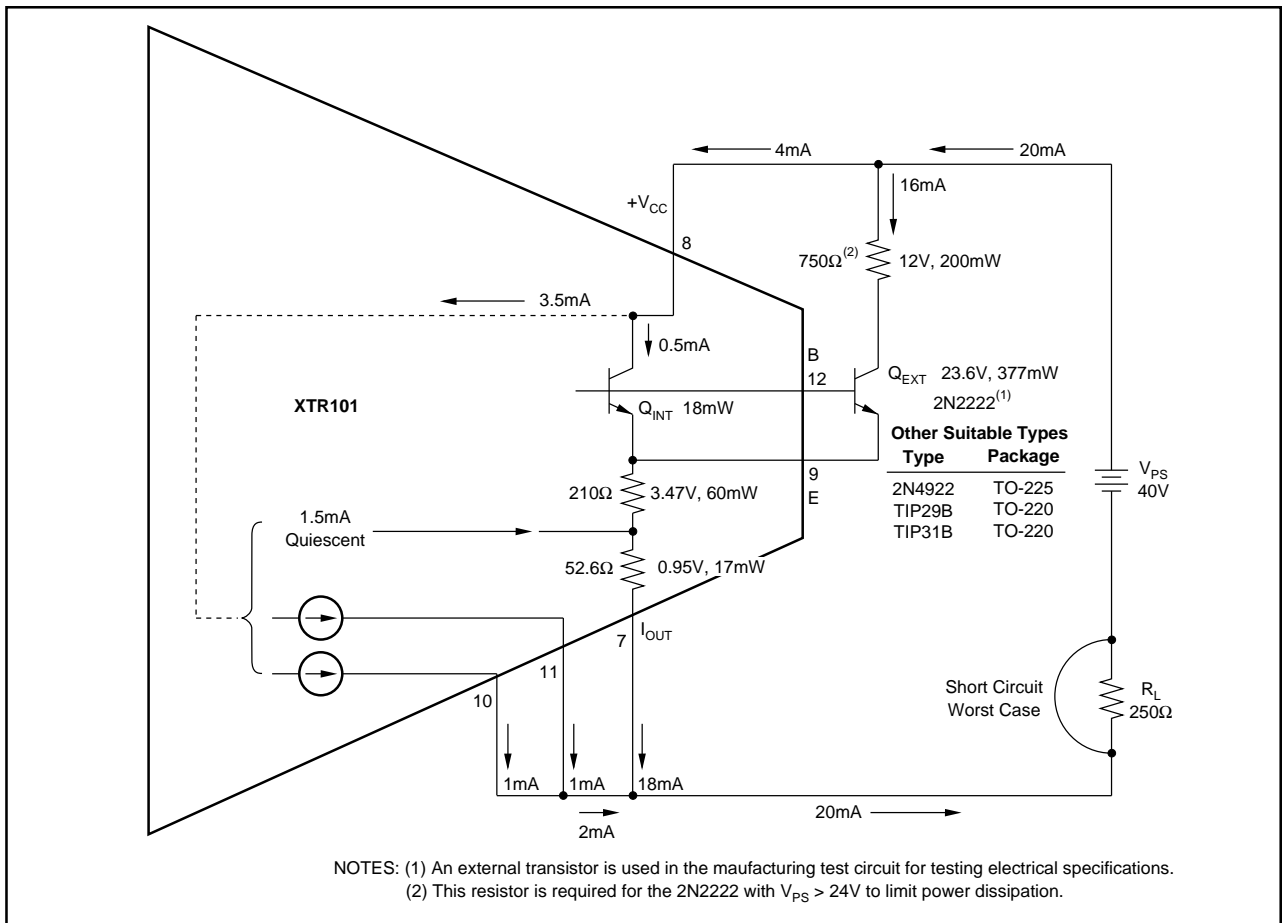

FIGURE 2. Power Calculation of XTR101 with External Transistor.
The optional external transistor, when used, is connected in parallel with the XTR101's internal transistor. The purpose is to increase accuracy by reducing heat change inside the XTR101 package as the output current spans from 4-20mA. Under normal operating conditions, the internal transistor is never completely turned off as shown in Figure 2. This maintains frequency stability with varying external transistor characteristics and wiring capacitance. The actual "current sharing" between internal and external transistors is dependent on two factors: (1) relative geometry of emitter areas and (2) relative package dissipation (case size and thermal conductivity). For best results, the external device should have a larger base-emitter area and smaller package. It will, upon turn on, take about  $[0.95 (I_O - 3.3\text{mA})]\text{mA}$ . However, it will heat faster and take a greater share after a few seconds.
tions shown in Figure 2. Thus the 2N2222 will safely operate below its 400mW rating at the upper temperature of  $+85^\circ\text{C}$ . Heat sinking the 2N2222 will result in greatly reduced accuracy improvement and is not recommended.